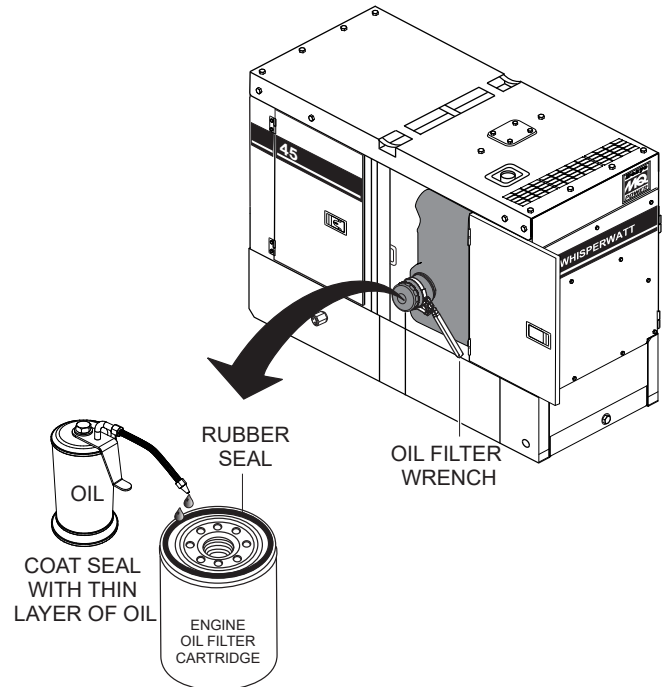

Figure 71. Oil Filter Replacement
2. Using an **oil filter wrench** (Figure 71), remove the **engine oil filter**.
3. Coat the rubber seal (gasket) surface of the new oil filter with clean 15W-40 engine oil (Figure 71).